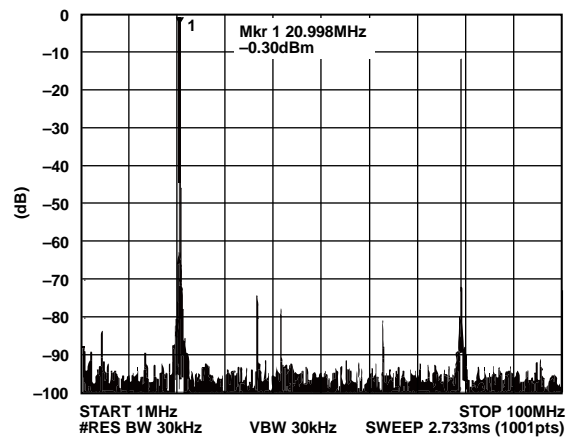
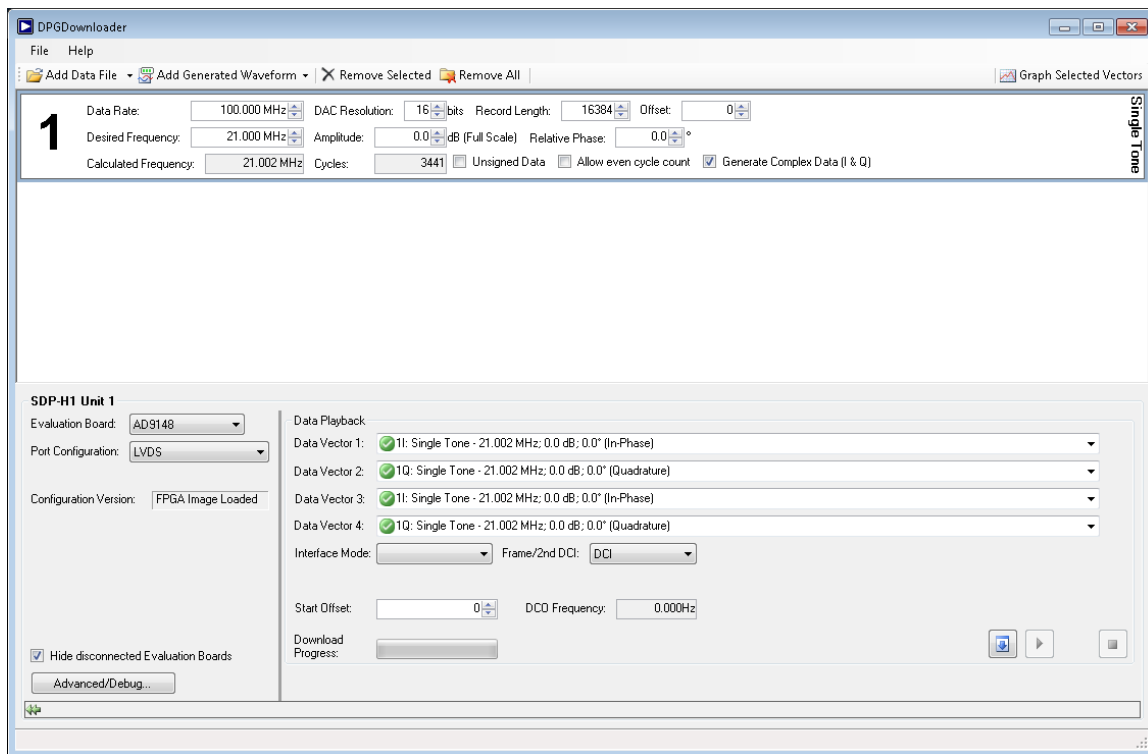

Figure 8. Signal Frequency Output on the Spectrum Analyzer
Figure 9. DPGDownloader
6. Within the DPGDownloader software, select **Single Tone** from the **Add Generated Waveform** dropdown menu (see Figure 9).
7. Set the **Data Rate** to 100.000 MHz (see Figure 9).
8. Set the **Desired Frequency** to 21.000 MHz (see Figure 9).
9. Clear the **Unsigned Data** check box (see Figure 9).
10. Check off the **Generate Complex Data (I & Q)** check box (see Figure 9).
11. Select a value for the generated I waveform in the **Data Vector 1** box and the **Data Vector 3** box (see Figure 9).
12. Select a value for the generated Q waveform in the **Data Vector 2** box and **Data Vector 4** box (see Figure 9).
13. Click the **Download** button () in the lower right of the **Data Playback** section (see Figure 9).
14. Click the **Play** button () to begin vector playback (see Figure 9). The signal frequency output then appears on the spectrum analyzer as shown in Figure 8.